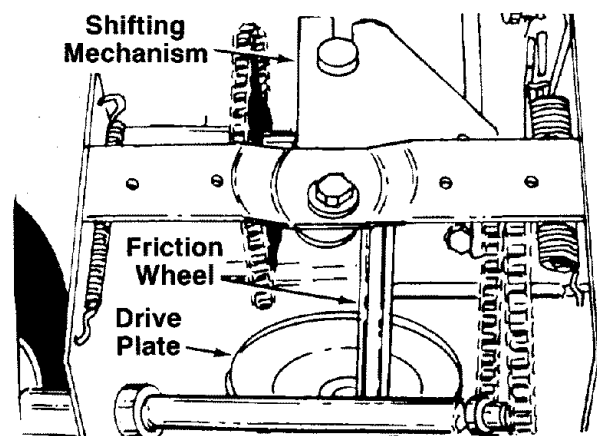

FIGURE 24.
**Chains and Shifting Mechanism**—Lubricate all chains, bearings, gears and the shifting mechanism with engine oil after every 10 hours of operation or at least once a season. See figure 24. Avoid getting oil on the friction wheel and drive plate.